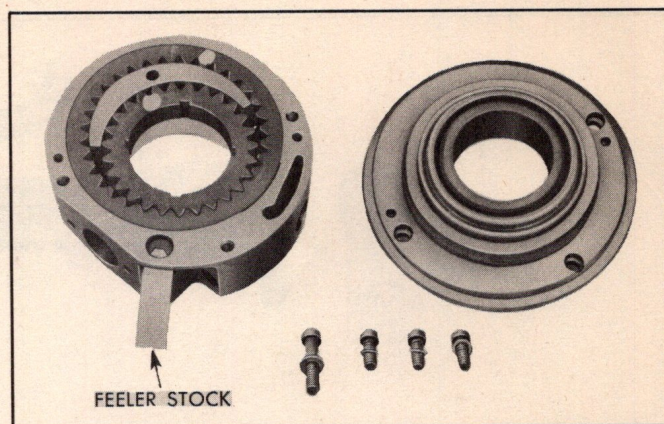

Fig. 277—Holding Relief Valve Down
5. Install the relief valve spring, and relief valve into the pump body. Press down on valve and insert feeler stock in slot to hold valve down (Fig. 277).